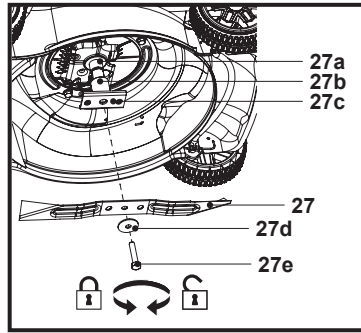

Fig. 18
1. Keep the underbody and cutting blade (27) clean and free of debris. Remove clippings from the rear discharge chute (26).
2. Check all fasteners, such as nuts and bolts, periodically for tightness before operation. After prolonged use, especially in sandy soil conditions, the cutting blade (27) will become worn and lose some of the original shape. The cutting efficiency will be reduced and the cutting blade (27) should be replaced.
3. Keep the cutting blade (27) sharp to ensure a good cutting performance. Replace a worn or damaged cutting blade (27) with a new one of the same type or have it sharpened by a qualified specialist.
4. If jacking the machine is not possible, tilt it to the right side so that the fuel tank cap (7a) side is up. This helps to prevent fuel leakage and harder starting due to flooding of the carburetor (10).
5. Loosen the hex bolt (27e) anti-clockwise using a suitable wrench (size 17 mm) and remove it together with the washer (27d), the cutting blade (27), the blade holder (19b) and inner bushing (27b) from the spindle (27a).
6. Replace the cutting blade (27) with a new one of the same type. Refit the blade holder (27c) together with inner bushing (27b) to the spindle (27a), make sure that the slot of blade holder (27c) pass through the pin to the end of spindle (27a). Check the status of the flange onto the blade holder (27c), then attach the cutting blade (27) properly, fix the assembly with the washer (27d) and hex bolt (27e). Tighten the hex bolt (27e) clockwise with 45 Nm min, 60 Nm max. to ensure safe operation of your machine (Fig. 18).